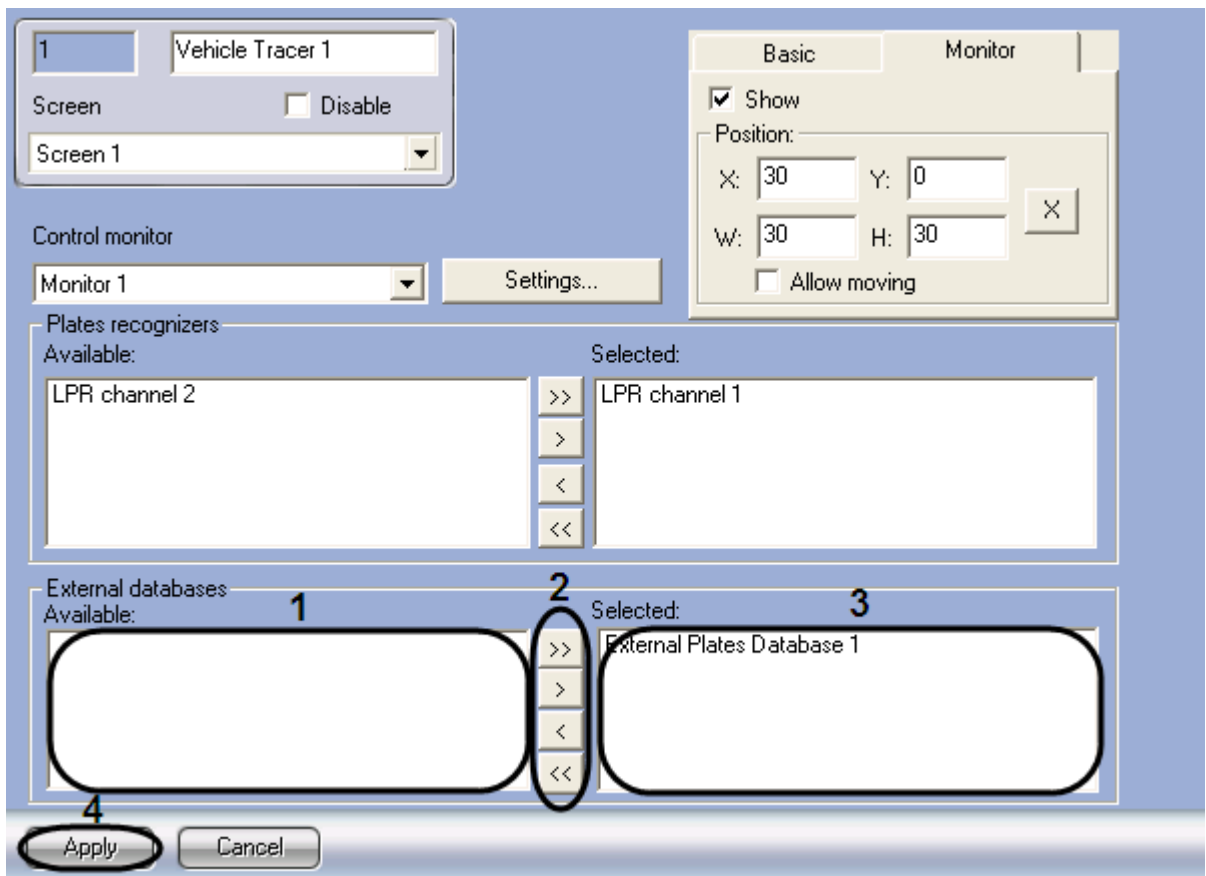

Fig. 7.8-6 Selecting the External Plates Database
1. Go to the Vehicle tracer settings panel (Fig. 7.8-6).
2. Select the required External Plates databases from the list Available of the Plates recognizers group (Fig. 7.8-6, 1).
3. Move the selected external databases to the list Selected of the External databases group, clicking the « > » button (or « >> » button for moving all the external databases from the list) (Fig. 7.8-6, 2-3).
*Note. Buttons « < » and « << » are designed for handling the actions, i.e. for moving the selected or all the external databases from the Selected list to the Available list» (Fig. 7.8-6, 2).*
4. Click Apply to save the applied changes (Fig. 7.8-6, 4).